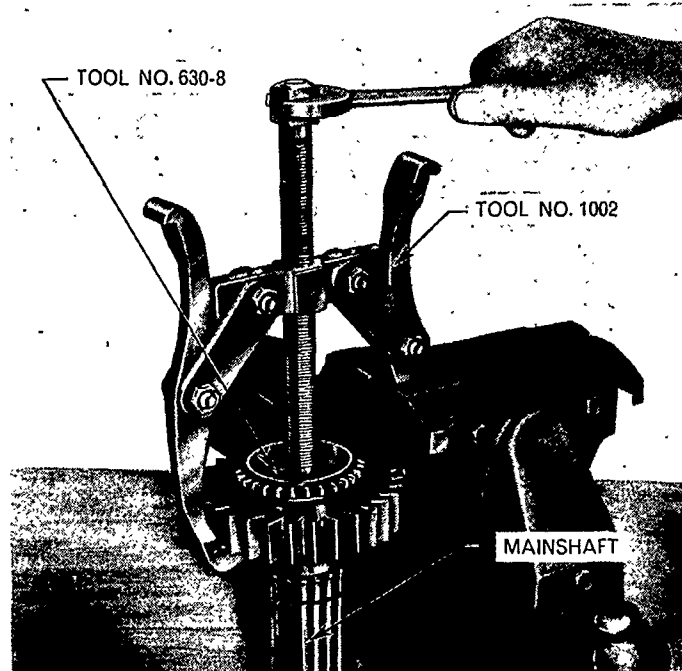

Figure 47
5. Install a new pilot bearing cup in the mainshaft using Tools Nos. 1002, and 630-8, Figure 47.